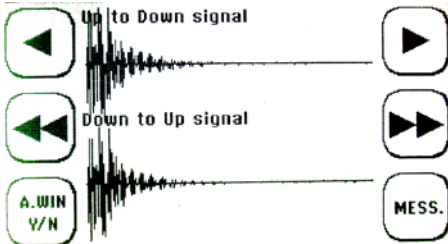

Figure 27: Transducer connected but no acoustic contact (without Magnalube)
- 6) In contrast, defective ultrasonic transducers or signal lines, only the relics of the transmitting signals can be seen immediately from the beginning of the measurement window. The signal characteristics will be like shown in Figure 27, or Figure 28, or somewhere in between. Send signal characteristics can also occur when testing intact transducers with intact signal lines, but they are small compared to the received signal wavelets.